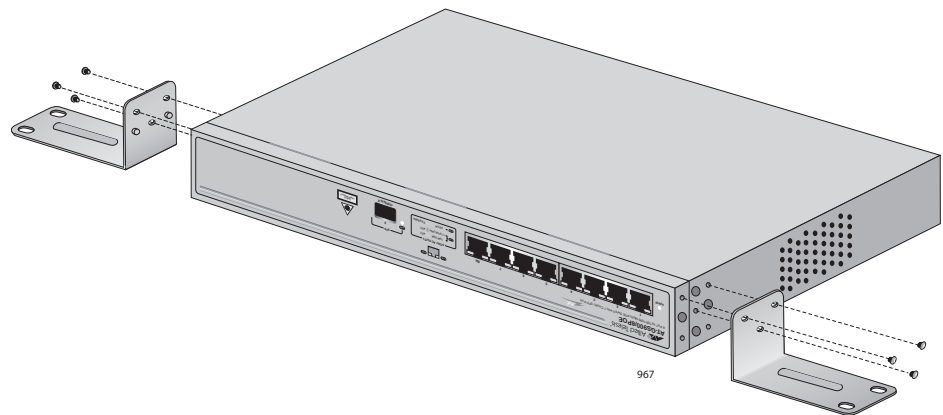

Figure 6. Attaching Brackets for Wall Mounting
3. Turn the switch over and attach a mounting bracket (provided) to each side of the switch using the bracket mounting screws (provided), as shown Figure 6.